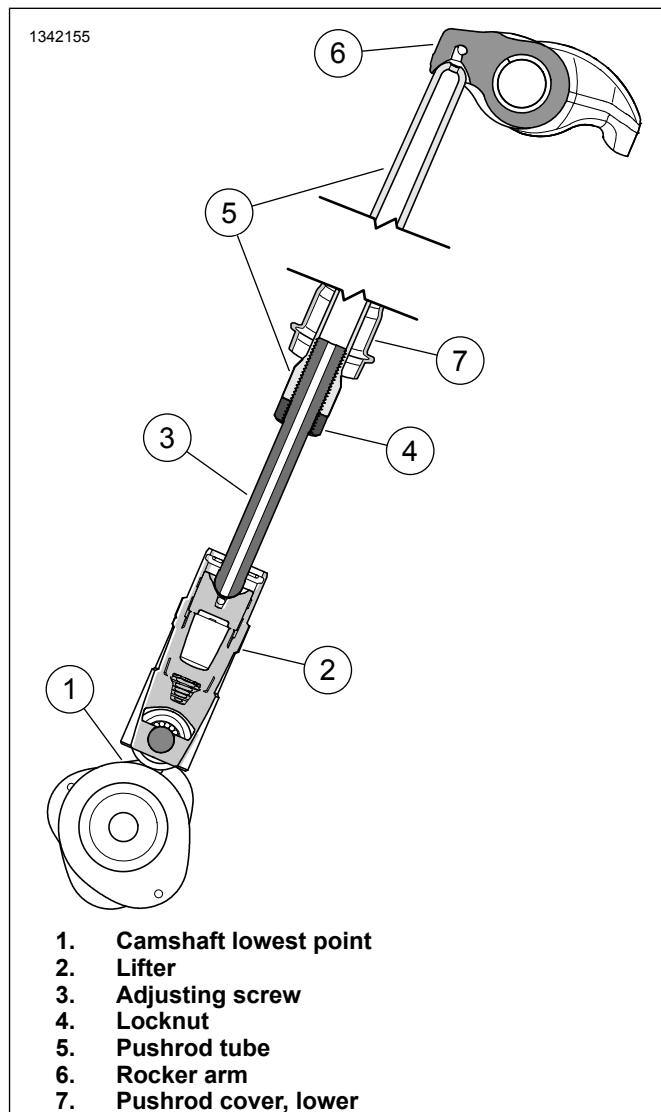

Figure 4. Pushrod Placement
3. See Figure 4. With transmission in gear use rear wheel to turn engine over until both front cylinder tappets are at their lowest point (1).
1. Figure 4. Adjust pushrod length to zero clearance by hand. Verify that the top of the pushrod tube (5) rests inside the cup in the rocker arm (6) and the bottom end of the adjusting screw (3) rests in the cup of the lifter (2).